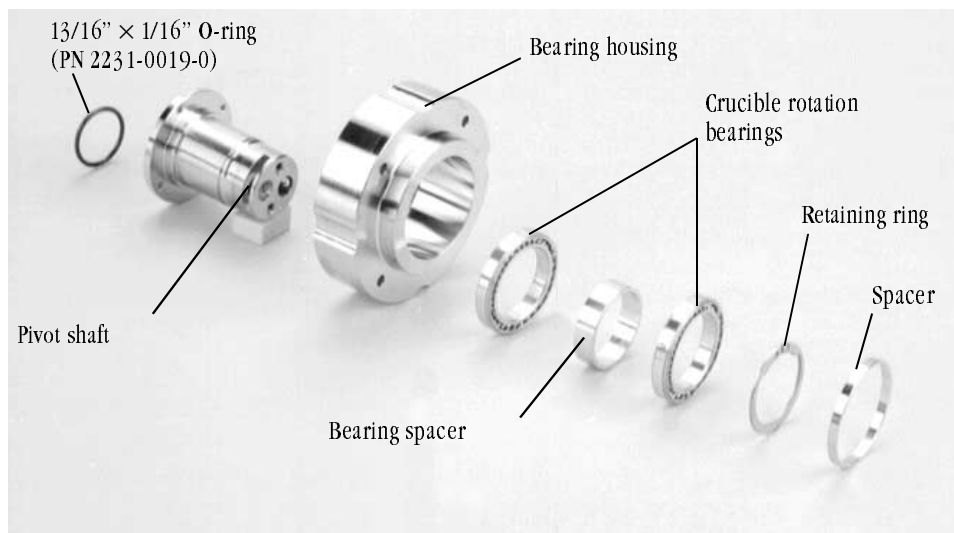

Figure 6-17. Layout of the parts of the bearing housing assembly, in order of reassembly
Step 3: Remove the pivot shaft, upper and lower bearings, and bearing spacer from the bearing housing. Figure 6-17 shows these parts laid out in order of reassembly.